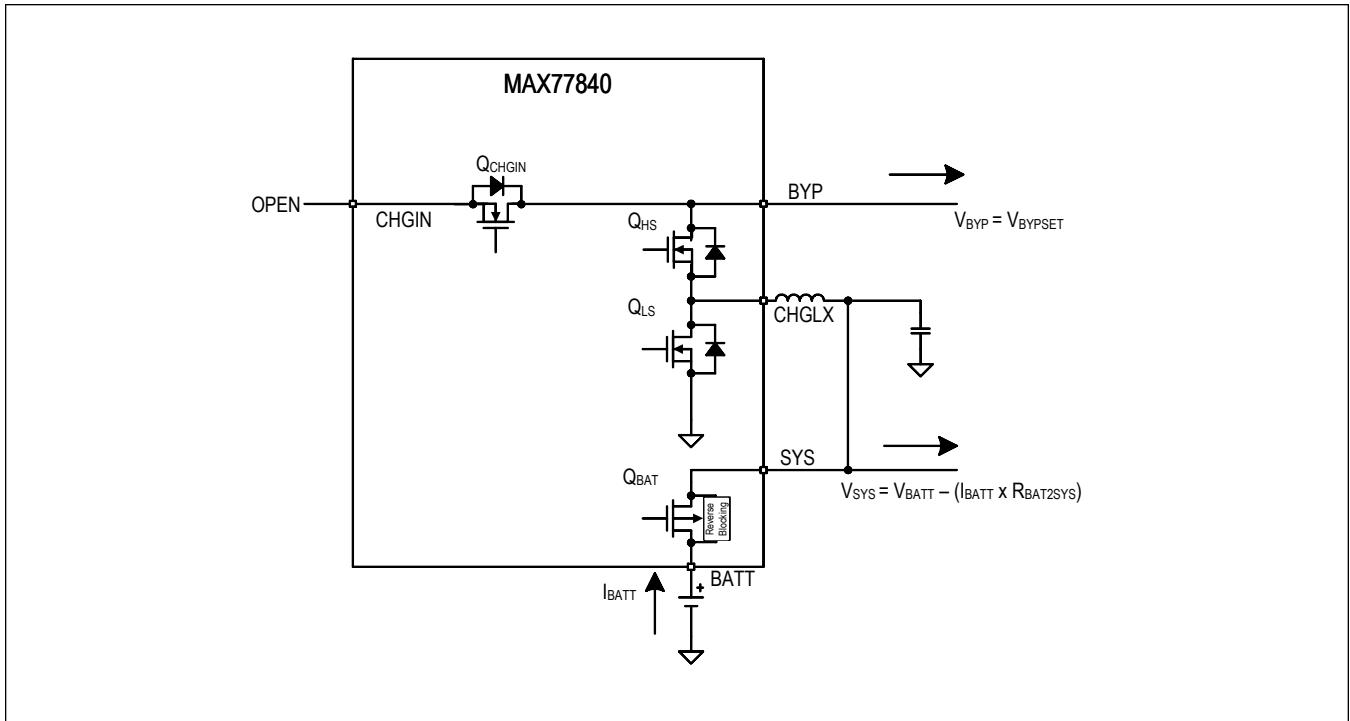

Figure 5. Battery-Boost
3. BATTERY-BOOST, *MODE = 0x08*: The adapter voltage is invalid, outside the input voltage operating range ( $Q_{CHGIN}$  = off). Battery is connected to power the SYS load ( $Q_{BAT}$  = on), and charger is operating in Boost mode (Boost = on), see Figure 5.